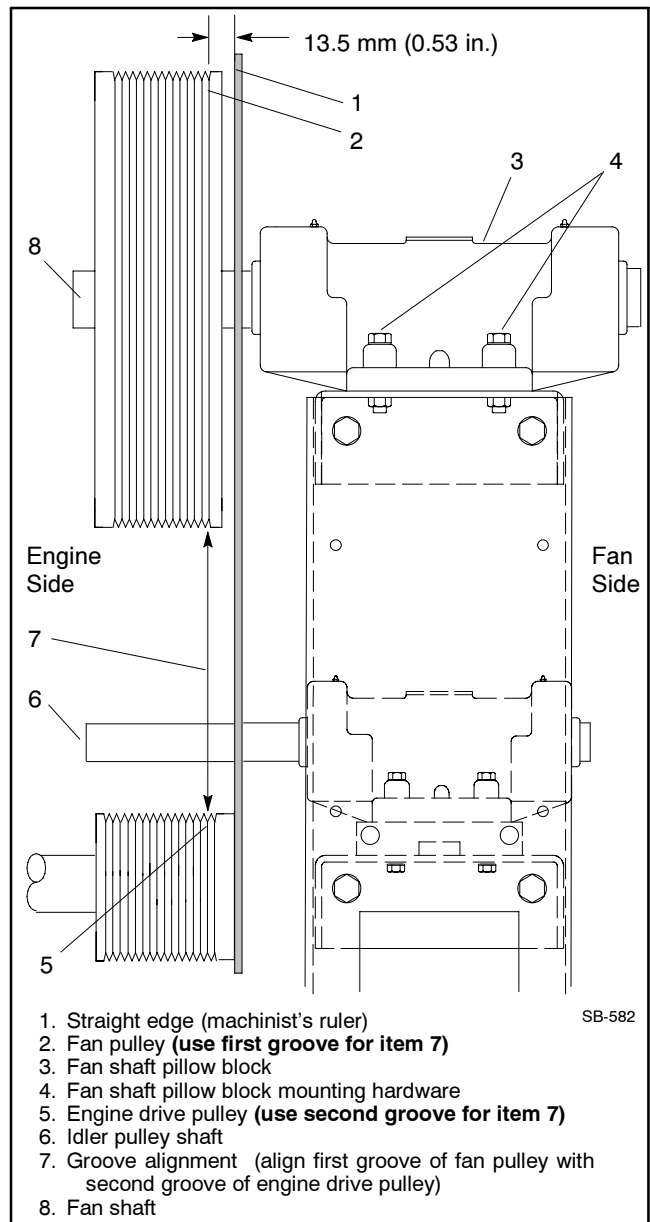
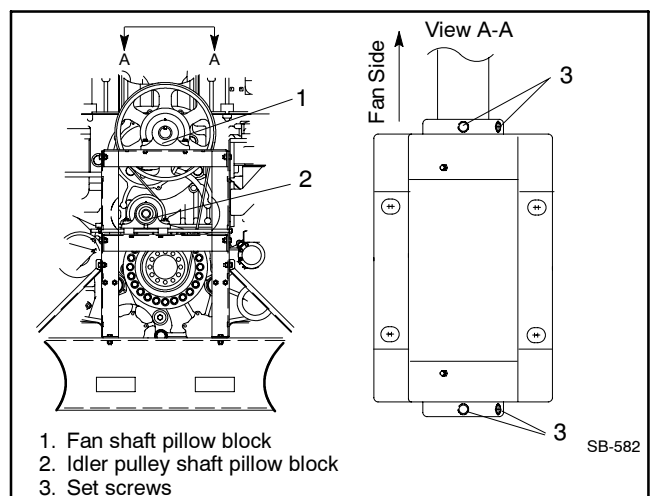
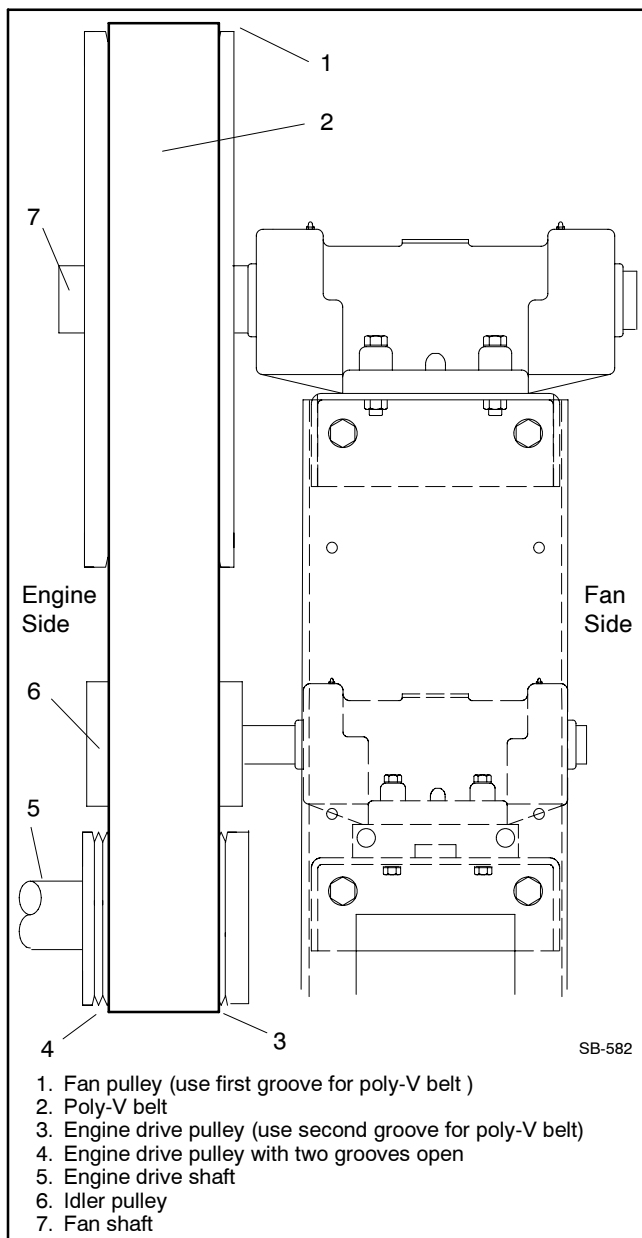

Figure 3-16 Pulley Alignment, Side View
Figure 3-17 Fan Shaft Set Screws
Figure 3-18 Belt Installation
- a. Align the fan pulley with the engine drive pulley. The second groove of the engine drive pulley must align with the first groove of the fan pulley. See Figure 3-16.
Adjust the front-to-back pulley alignment by loosening the fan shaft set screws. See Figure 3-17. Adjust the left-to-right pulley alignment by loosening the fan shaft pillow block mounting hardware. See Figure 3-16.
- c. Verify that the fan shaft set screws are torqued to 33 Nm (24 ft. lb.). See Figure 3-17.
- b. Install the poly-V belt. Align the poly-V belt with the second groove on the engine drive pulley and the first groove on the fan pulley from the fan side. See Figure 3-16 and Figure 3-18.